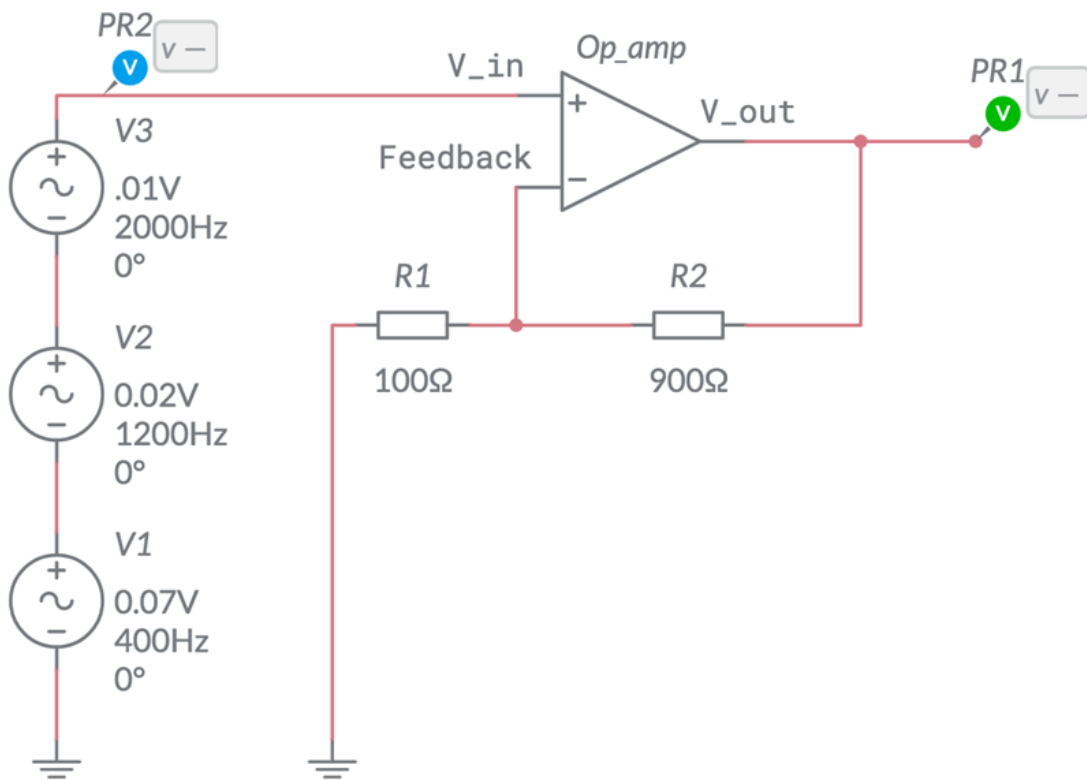
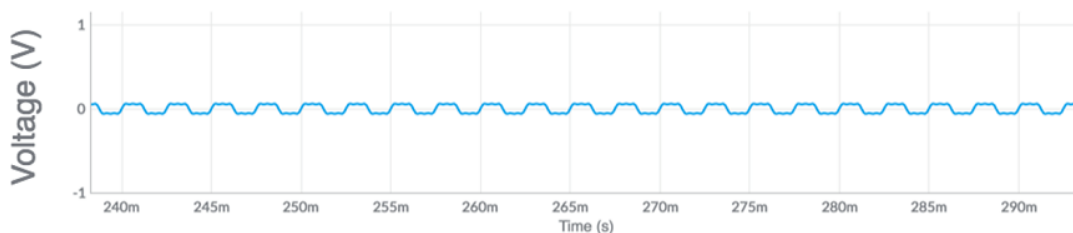

Figure 37 Circuit to generate and amplify a weak signal (screenshot from Multisim Live)
Figure 38 The waveform to be amplified (screenshot from Multisim Live)
One way to amplify a signal is to use an operational amplifier (op-amp) with two resistors connected to form an amplifying feedback circuit, as shown in Figure 37.
The circuit in Figure 37 is made using the Multisim Live simulation package. The three circular objects on the left are here used to generate a signal. *V1* generates a voltage sine wave with amplitude 0.07 V and frequency 400 Hz. *V2* generates a voltage sine wave with amplitude 0.02 V and frequency 1200 Hz. *V3* generates a voltage sine wave with amplitude 0.01 V and frequency 2000 Hz. Together, they generate the very weak signal shown in Figure 38.
- What is the gain for the circuit shown in Figure 37?